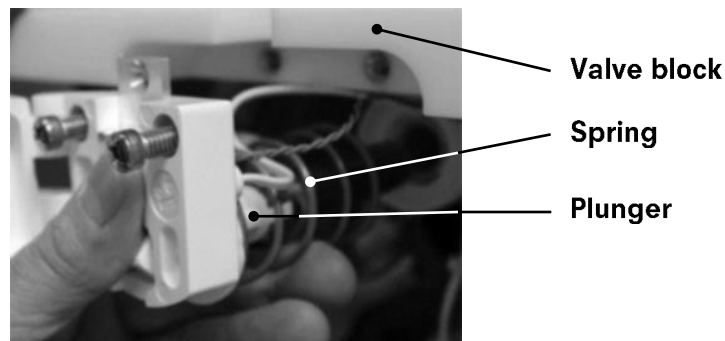

Figure 2
10. Gently take apart the valve assembly (see Figure 2) and drop the parts into a container of warm, soapy water. Be careful not to pull the wires that are attached to the dispenser. They are threaded through the valve body and spring retainer, so these pieces can't be removed completely. The valve body can only be moved the length of the thermistor and reed switch wires.